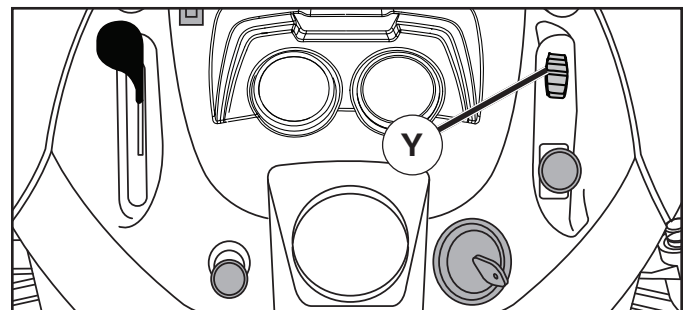

Fig. 15
TO USE DIFFERENTIAL LOCK CONTROL (Y) (See Fig. 15)